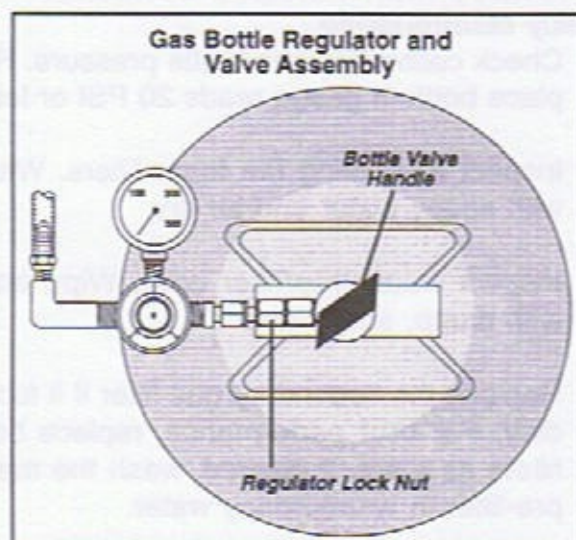

Figure 6-1
1. Turn gas bottle valve off (see Figure 6-1).